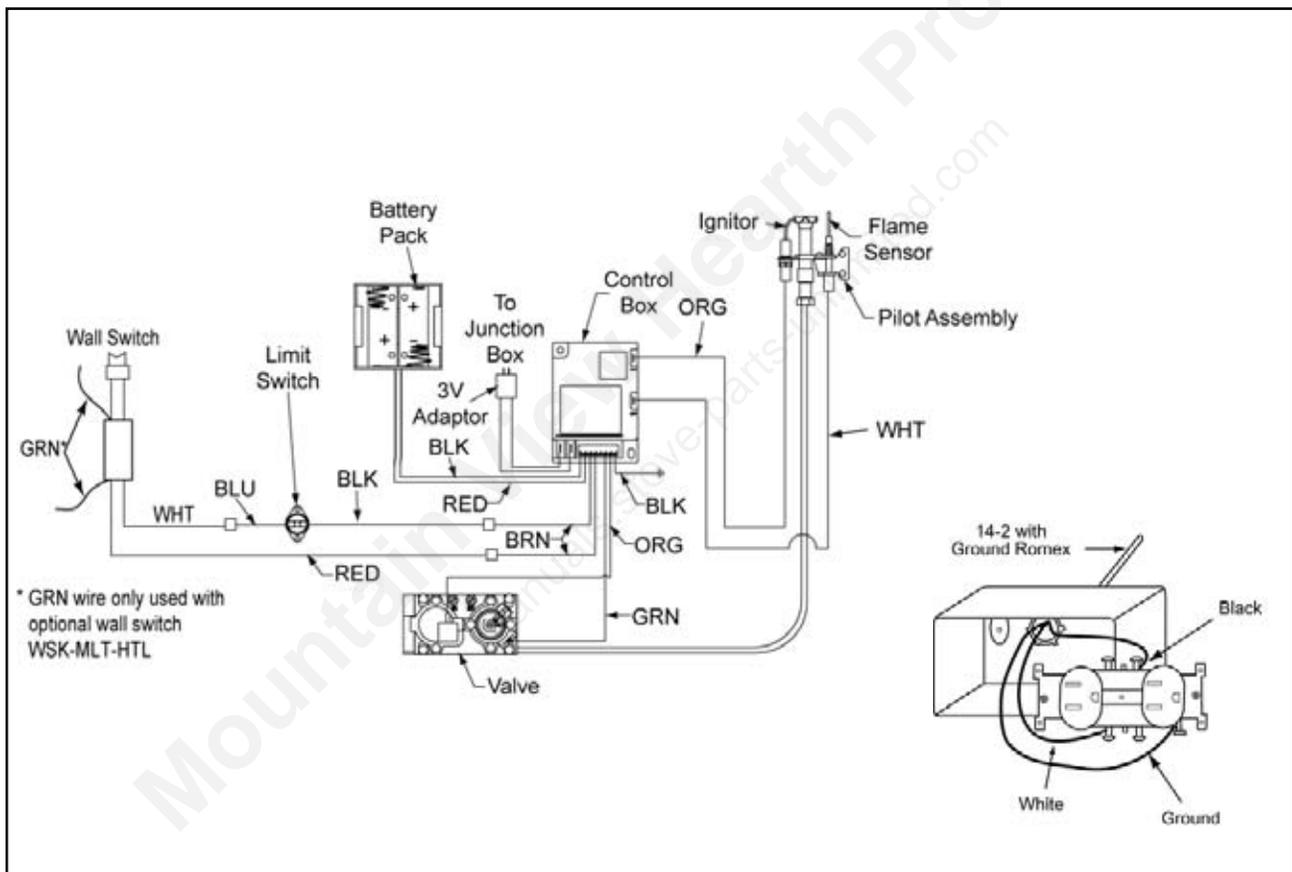

Figure 12 - Intermittent Pilot Ignition Wiring Diagram
This appliance is equipped with an intermittent pilot control valve which operates on a 3 volt system. See wiring diagram, Figure 12.
- b. Wire the junction box per the diagram in Figure 12.